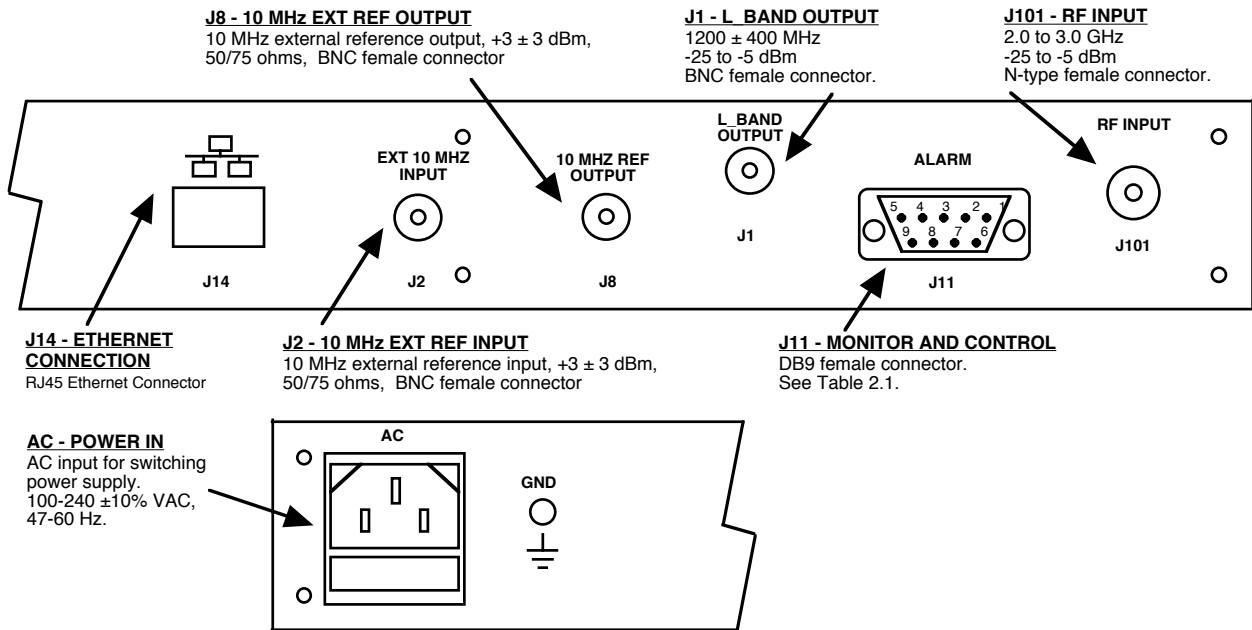

FIGURE 2.1 3116-30#-1200 Rear Panel I/O's
Figure 2.1 shows the input and output connectors on the rear panel.
1. Connect a -25 dBm to -5 dBm signal to RF IN, J101 (Figure 2.1).